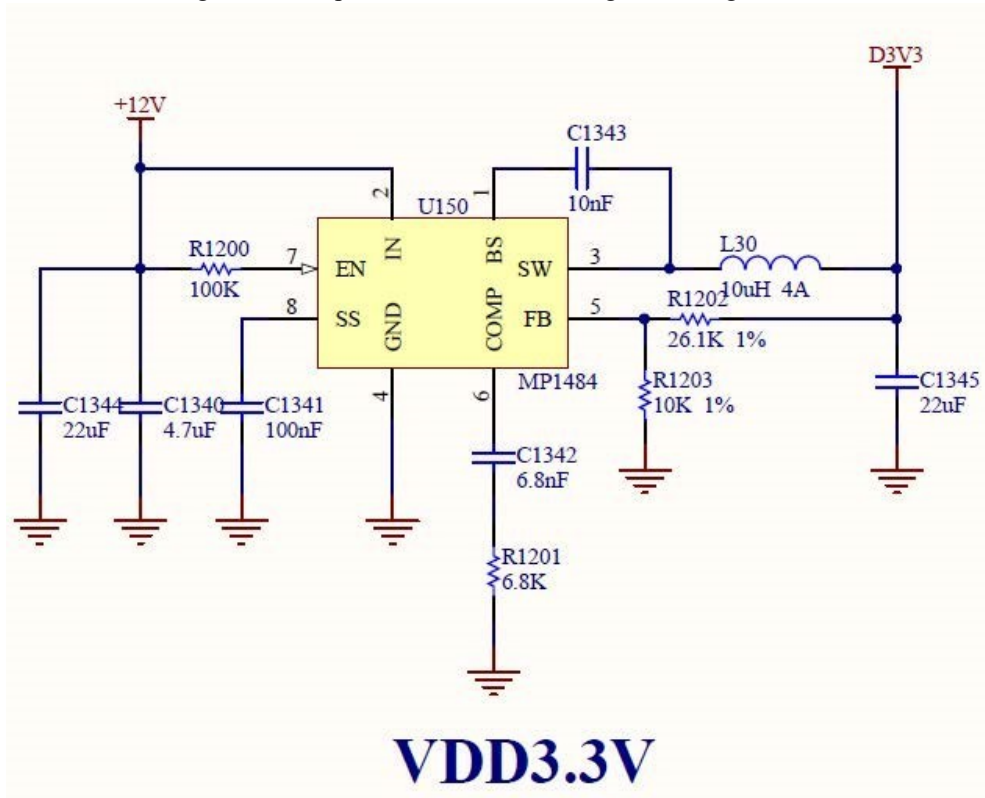

Fig 14. 3.3V Reduction Voltage Schematic
4. 3.3V Reduction Voltage Circuit: 3.3V power supply for Hashboard, mainly providing PIC and EPROM with working voltage. Responsible for reducing voltage to 3.3V from 12V, and the principle is to reduce 12V to 3.3V through U150 MP1484 switching power supply, the switching signal produced by U150 stores energy via L30 inductance, charges and discharges C1345, gives sampling feedbacks via R1202/R1203 to U150 and thereby controls the voltage of C1345 positive electrode. See Fig 14 and Fig 15: